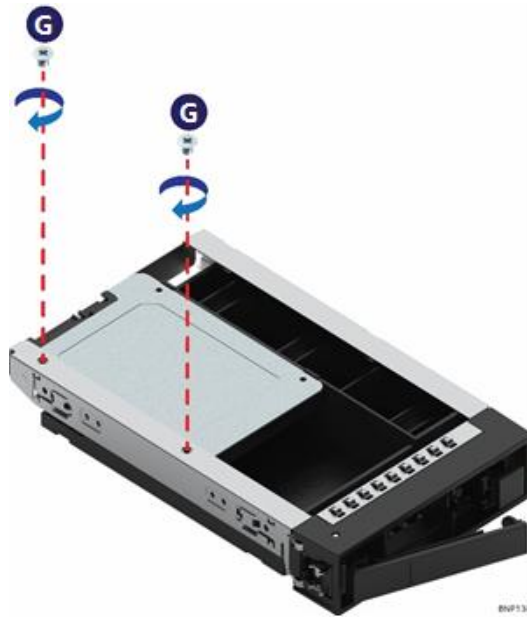

Figure 74. 2.5" SSD Assembly Installation to Drive Carrier (Step 8)
8. Turn the drive carrier assembly over and secure the SSD assembly to the drive carrier (see Figure 74).